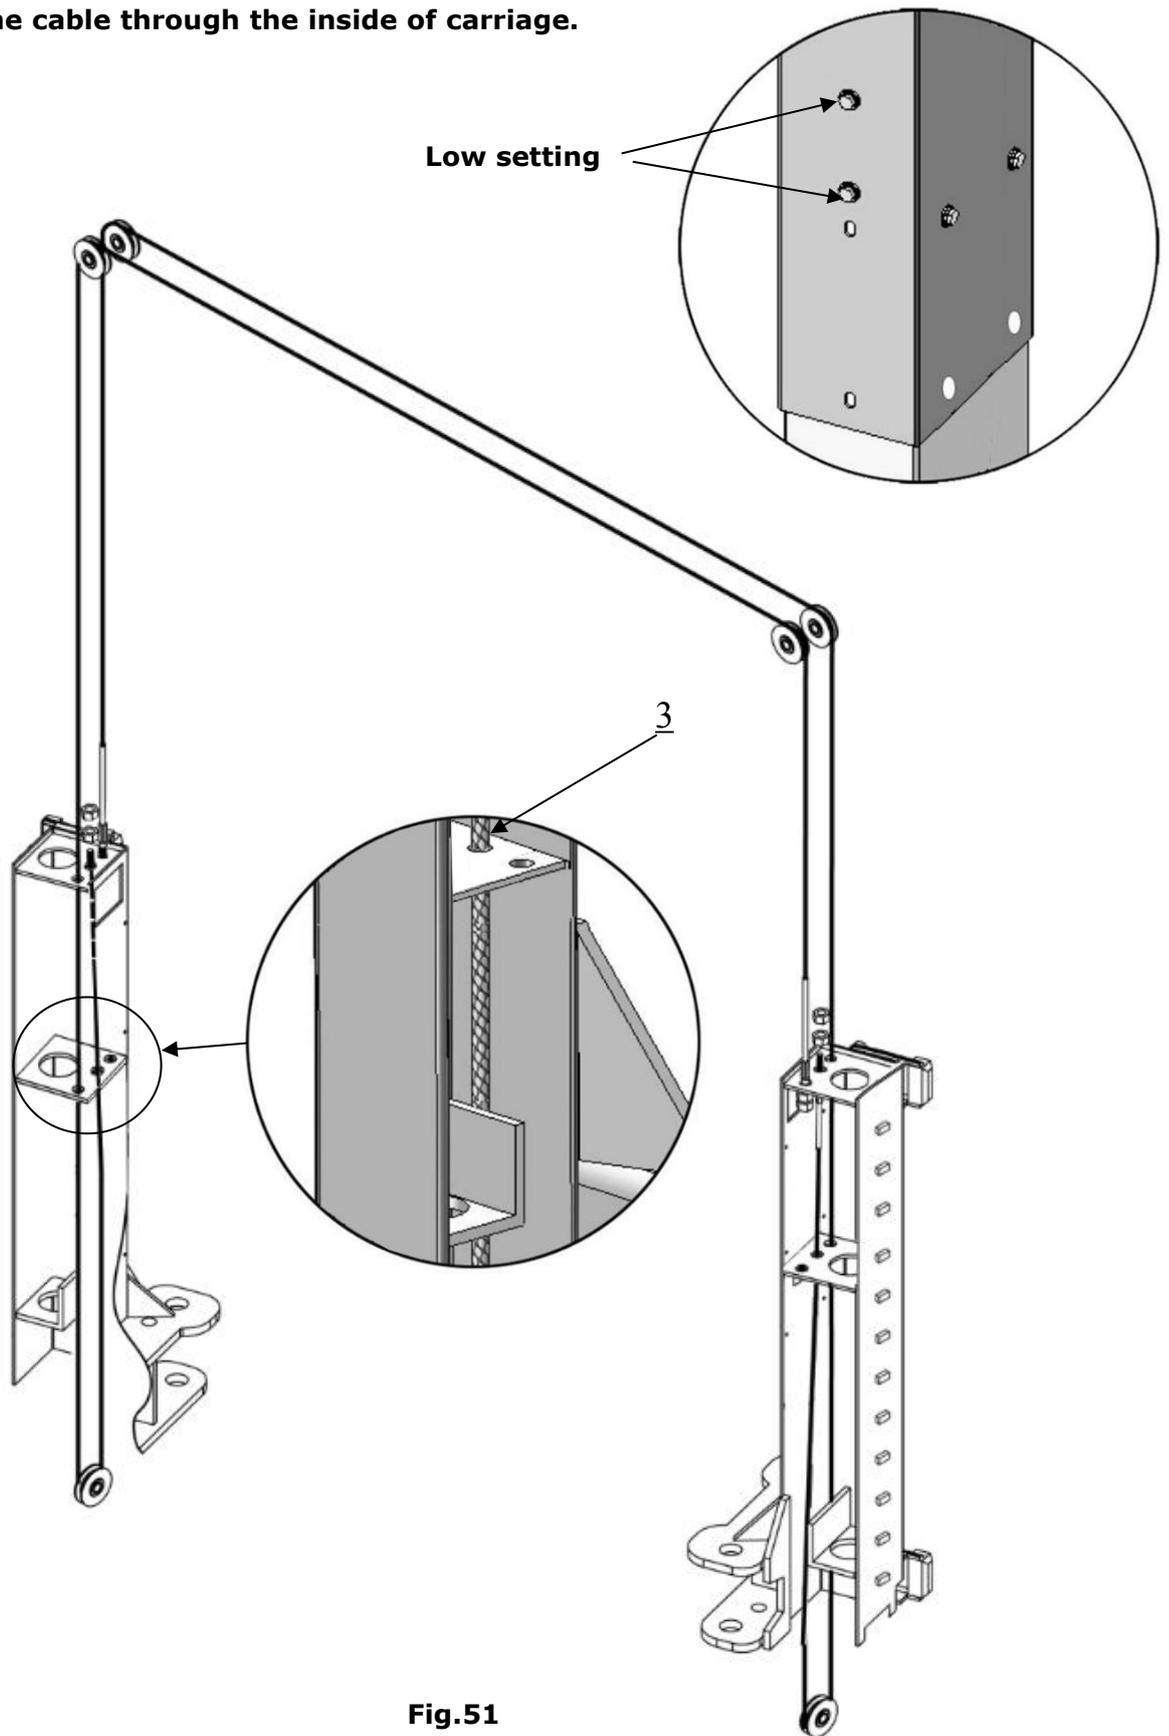

Fig.51
3.2 OHX-10H sync cable assy. connection for low setting. (Fig. 51)